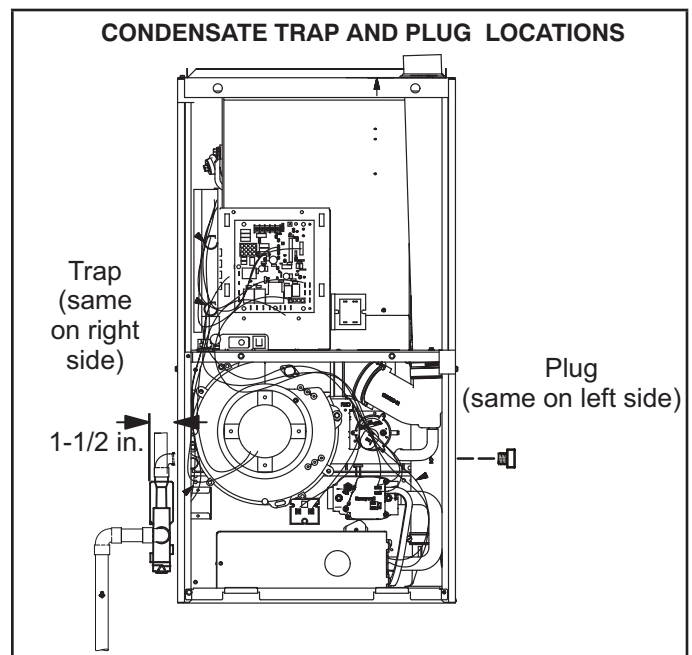
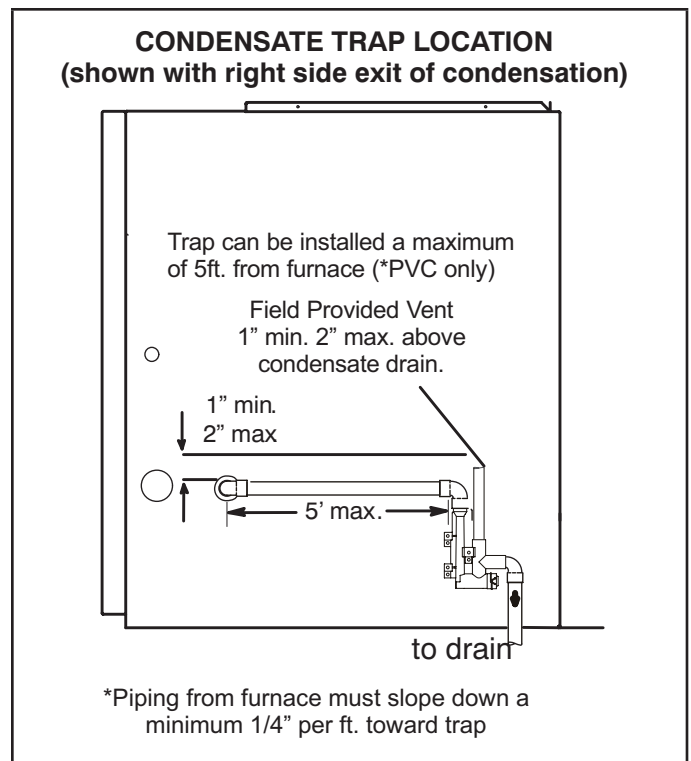

FIGURE 45
FIGURE 47
This unit is designed for either right-or left-side exit of condensate piping. Refer to FIGURE 45 and FIGURE 47 for condensate trap locations.
- 2 - For furnaces with a 1/2" drain connection use a 3/8 allen wrench and remove plug (FIGURE 45) from the cold end header box at the appropriate location on the side of the unit. Install field-provided 1/2 NPT male fitting into cold end header box. For furnaces with a 3/4" drain connection use a large flat head screw driver or a 1/2" drive socket extension and remove plug. Install provided 3/4 NPT street elbow fitting into cold end header box. Use Teflon tape or appropriate pipe dope.